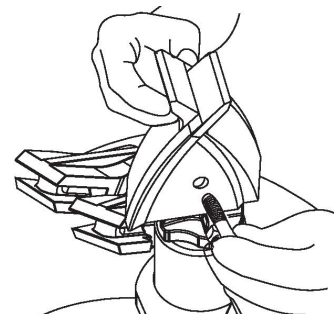

Figure 19
3. Place the new pilot on the bottom of the bit, and secure with the nut and bolt. See Figure 19.